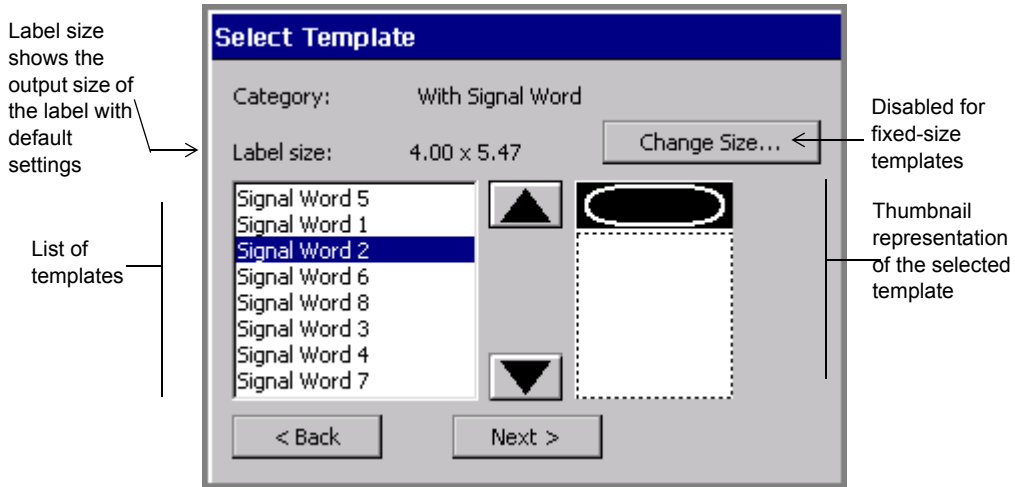

Figure 6-8. The Select Template screen
- The list of templates provides a miniature graphic representation (called a “thumbnail”) for the highlighted template. This feature may help you choose the appropriate template for your purpose. In the template shown in Figure 6-8,
for instance, you'll be prompted to add a graphic sign header (or *signal word*) to the top part of the label, and a text object to the bottom part. Using the template shown in Figure 6-8 above, you could create a label that looks like this: